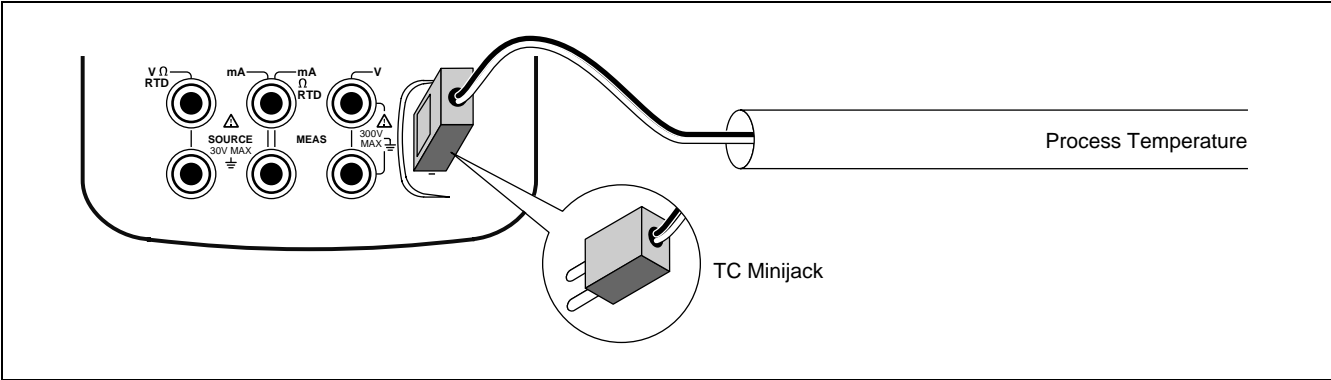

Figure 12. Measuring Temperature with a Thermocouple
1. Attach the thermocouple leads to the appropriate TC miniplug, then to the TC jack as shown in Figure 12. *One pin is wider than the other. Do not try to force a miniplug in the wrong polarization.*